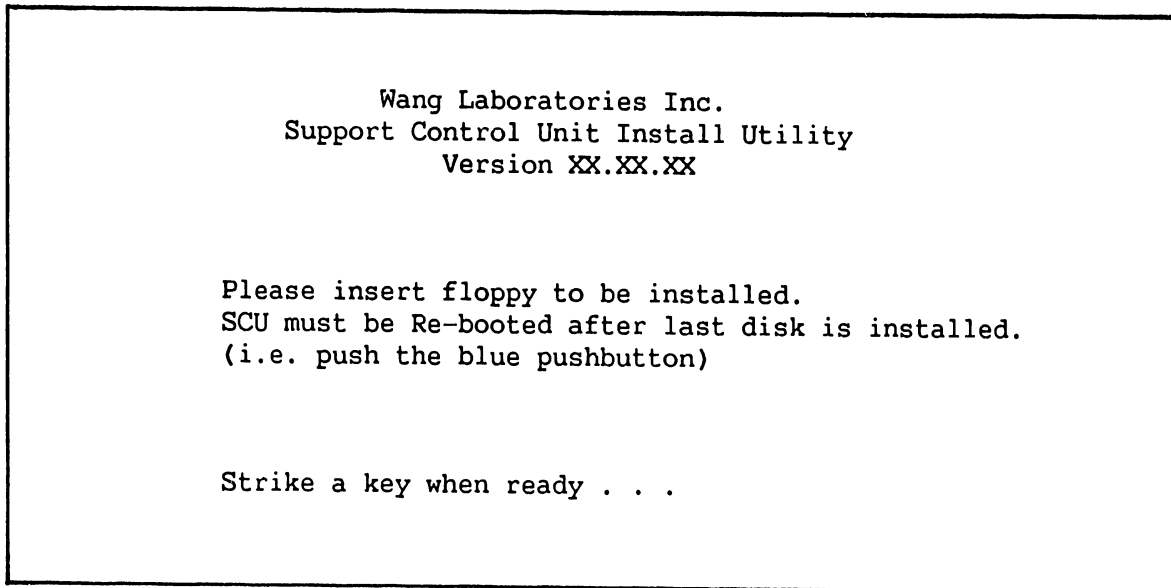

Figure 4-19. SCU Install Utility Screen
9. Select the Install SCU Software option from the Support Control Unit Install Utility menu and press EXEC. The "Setting Up Winchester" message appears, followed by the SCU Install Utility screen, figure 4-19.
13. Remove the diskette from the drive and press any key. The Install utility screen, figure 4-19, reappears. Insert another diskette and press any key. Repeat this step until the files from all the diskettes have been copied.